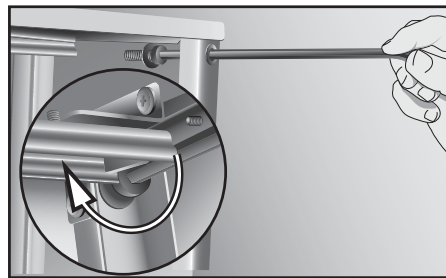

Figure 6
5. Using the 6mm L-Hex key install the M10x30 screws and flat washers as shown in **Figure 6**.
Use wrench as shown in **Figure 6** to **HAND TIGHTEN** all screws.